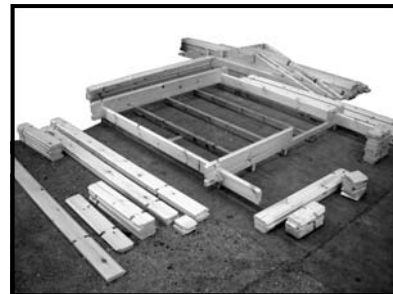

Fig C1-example
1. Using parts list for each wall layout correct quantity (fig C1) of each component for relevant wall (i.e. front, back) in suitable position for ease of assembly.